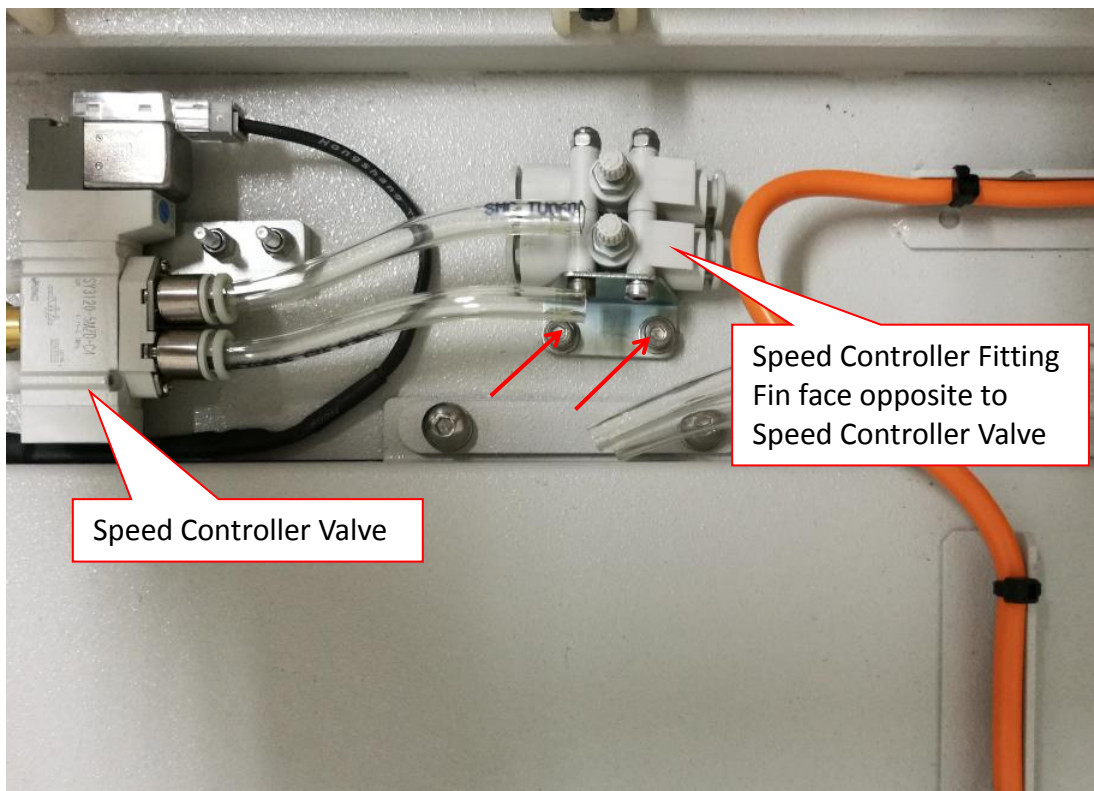

Figure 5 Speed controller fitting assembly
2. Assemble Speed Controller Fitting by refer to below orientation. Tighten 2 x Screws as shown in Figure 5.